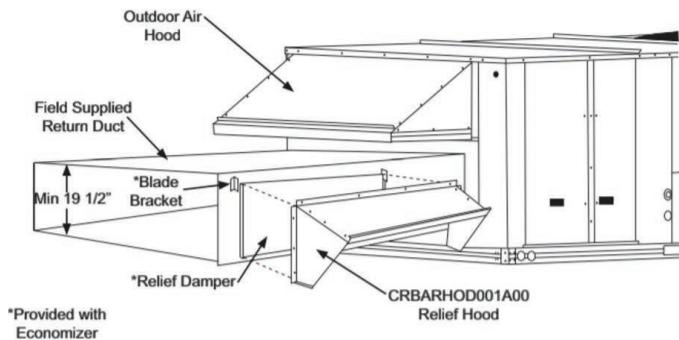

Fig. 22 — Installing CRBARHOD001A00 Over Relief Damper
4. Using the blade brackets, install the relief damper onto the side of the return duct (see Fig. 22). The two brackets and relief damper are provided with the economizer.
Caulk the backside of the mating flanges to ensure a watertight seal. Install the CRBARHOD001A00 over the relief damper and screw to the return duct, as illustrated in Fig. 22.
The unit has one 3/4-in. condensate drain connection on the end of the condensate pan (see Fig. 24). For the location of the condensate drain connection, see Fig. 22 (or Fig. 3).